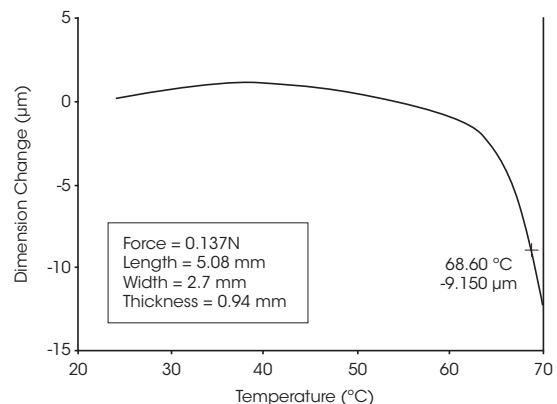

Figure 2. Polyvinyl Chloride DTUL - 455 kPa
- Samples are placed on the bending fixture and the knife-edged probe is lowered onto the sample with the predetermined force (F).
- The sample is heated at 2 °C/minute until the required deformation is achieved as defined by equation (2).
- An example of a DTUL experiment is shown in Figure 2 for Polyvinyl Chloride.